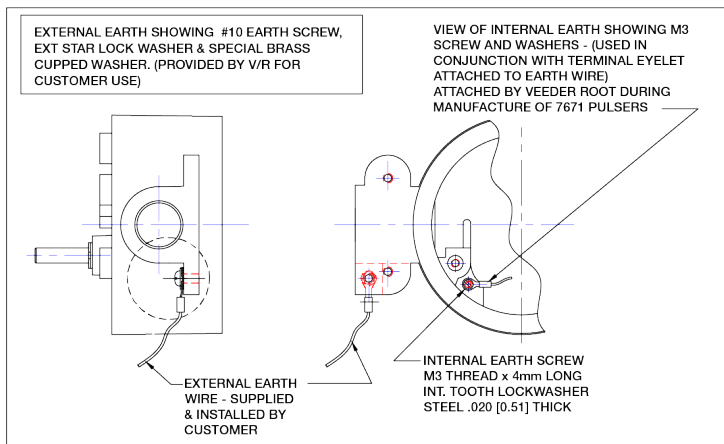

Figure 8. External & Internal Ground Connections
1. Customer applied ground wire is shown in Figure 8.
6. The internal earth point screw must not exceed 4mm in length. The Protective Earthing (PE) conductor must be of equal or be larger in size than those external conductors used to wire the device.